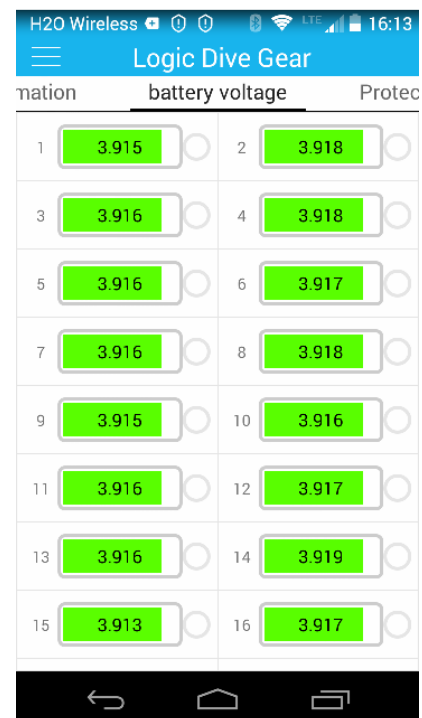

Figure 8
4. Verify battery operation with Bluetooth app on phone. Ensure that the voltage for each set of 18 cells is being read and that the voltages are close to the same. They should be between 3.00V and 4.15V, and within approximately .030 volts of each other. (Figure 8) If voltages are not correct, disconnect the small black connectors in **REVERSE NUMERICAL ORDER - 9,8,7,6,5,4,3,2,1**. A small latch on each connector must be pressed to remove connector. Check voltages as you disconnect to attempt to isolate a connector that may have not been properly aligned when connected.